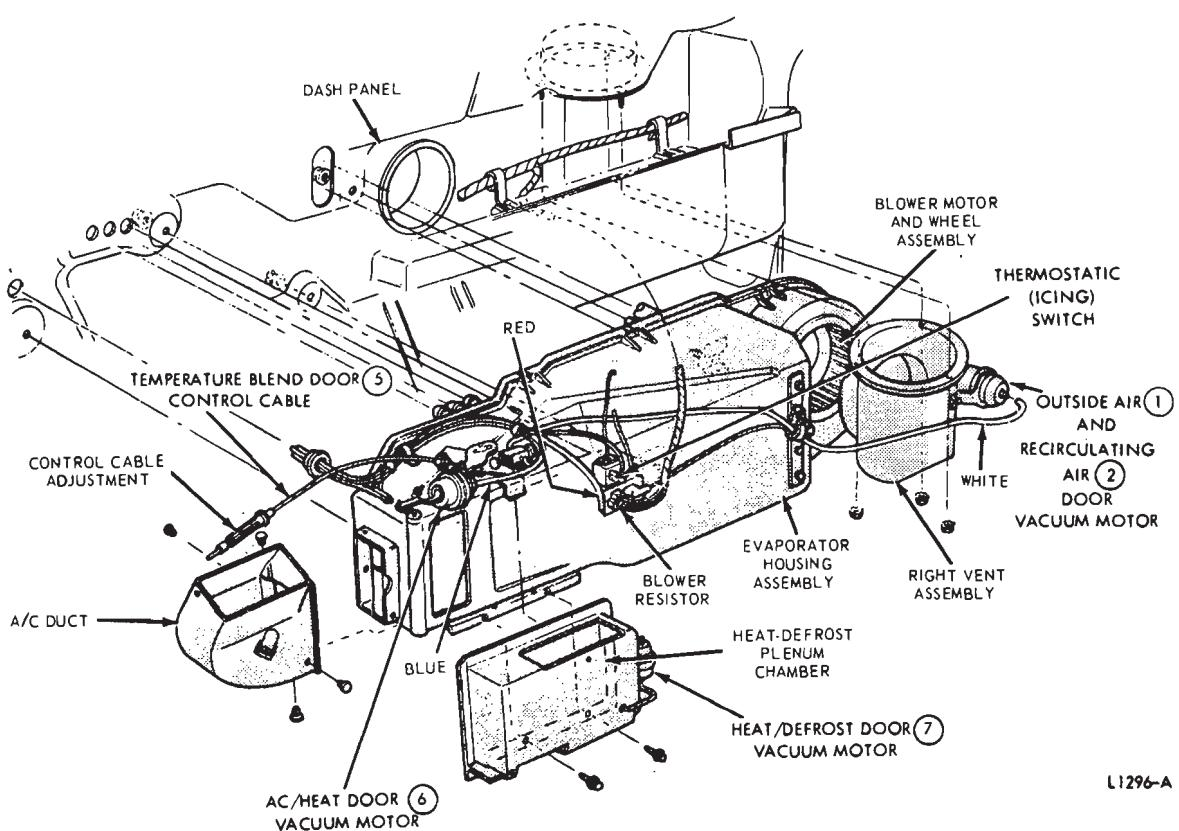
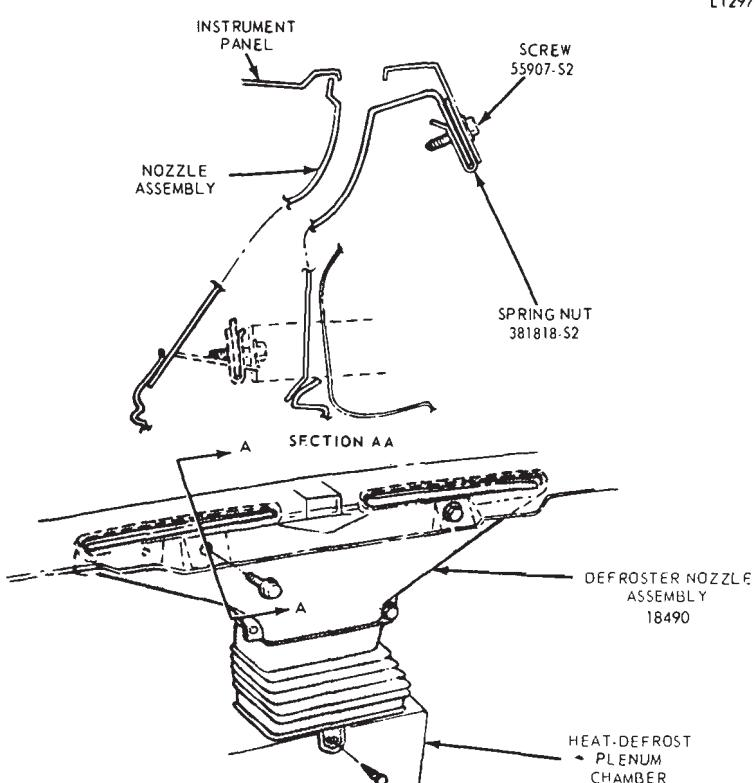

FIG. 54—Heater Air-Conditioner Installation—Falcon, Fairlane, and Montego
FIG. 56—Defroster Nozzle Installation—Falcon, Fairlane and Montego
10. Remove the snap-in clip retaining the defroster nozzle assembly to the heat/defrost plenum chamber, and disengage the defroster nozzle from the plenum (Fig. 56).
11. Disconnect the red-stripe vacuum hose from the heat/defrost door (7) vacuum motor.
12. Remove two screws attaching the heat-defrost plenum chamber to the evaporator housing and remove the plenum chamber (Fig. 54).
14. Disconnect the vacuum hose from the outside air (1) and recirculating air (2) door vacuum motor.
15. Remove three nuts retaining the right vent to the cowl top panel and remove the vent assembly (Fig. 54).
17. Disconnect the temperature blend door (5) control cable from the control assembly.
18. Disconnect the wires from the blower resistor and icing switch (Fig. 54).
22. Remove two defroster nozzle attaching screws and remove the defroster nozzle (Fig. 56).
2. Position the defroster nozzle to the defroster opening and install the two attaching screws (Fig. 56).
8. Position the right vent to the cowl top panel and install the three retaining nuts. Connect the white-stripe vacuum hose to the outside air (1) and recirculating air (2) door vacuum motor (Fig. 54).
9. Position the heat/defrost plenum chamber to the evaporator housing and install the two attaching screws (Fig. 54).
10. Connect the red-stripe vacuum hose to the heat/defrost door (7) vacuum motor.
2. Disconnect the (top) low pressure hose at the expansion valve (Fig. 54).